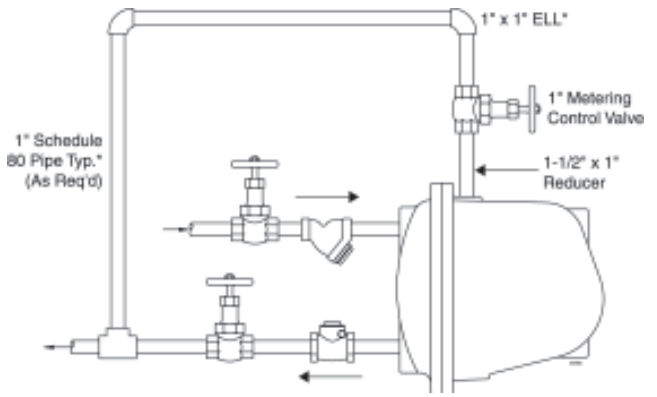

Figure 4
- E) When flash steam and noncondensables are to be removed and discharged directly to the condensate return line, use the piping arrangement in Figure 4.